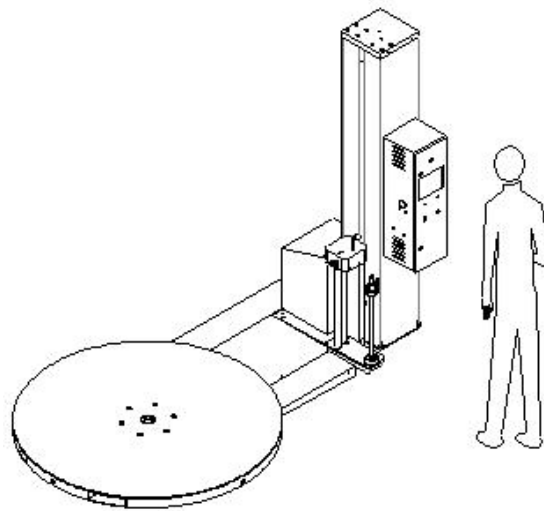

FIG 2-28
- Operator's standing position is shown in FIG 2-28, in front of the control panel;